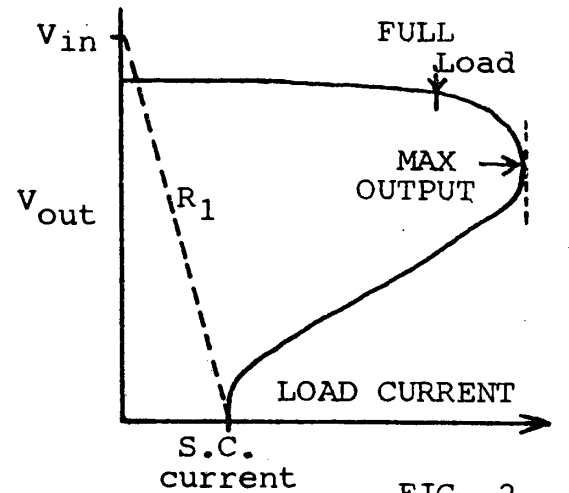

FIG. 2
2) Better still, the circuit has an inherent current-limiting action. The load curve in fig. 2 shows that, whilst the output voltage is constant up to full load, it drops rapidly to the maximum current point. Thence the curve turns back for a short-circuit current which may be only one-fourth of full-load current, and is set largely by R1, which is usually necessary to start the circuit. After a short at the output, the output voltage will recover as soon as the fault is removed.